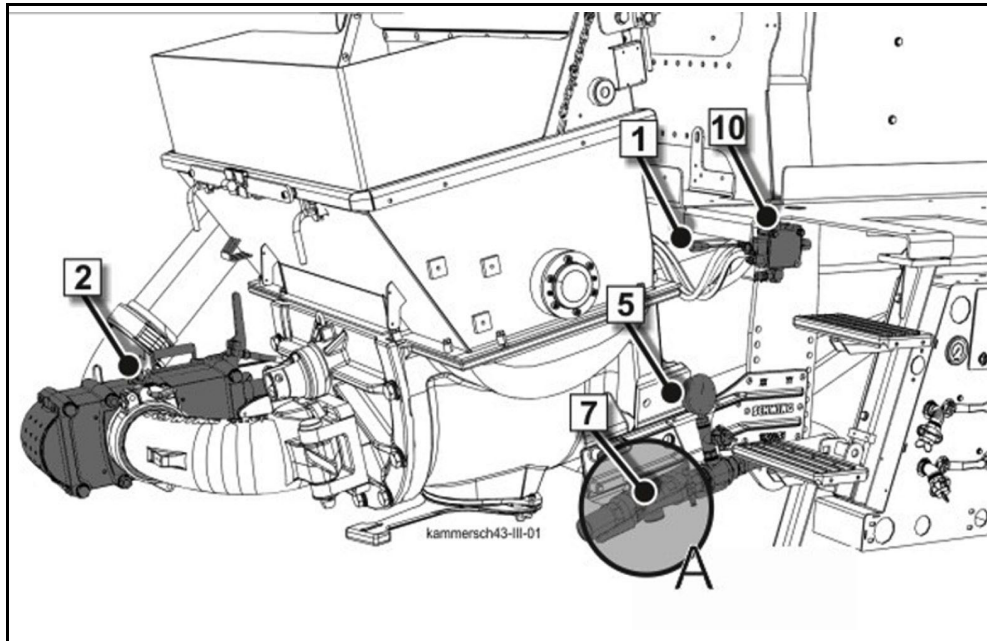
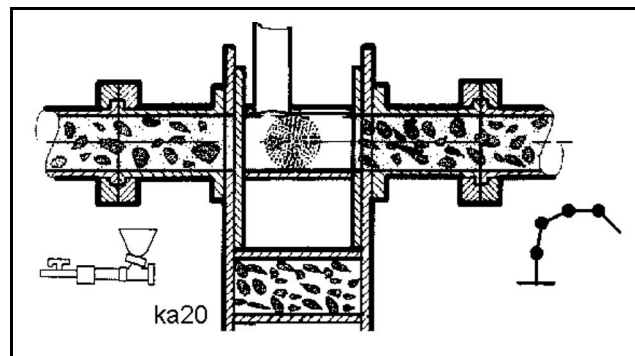

Fig. 452 Complete chamber valve
Fig. 464
- Use caution when opening the ball valve (7) (**Fig. 452**). Residual concrete can be ejected from the blow valve opening.
The chamber valve is installed in the pumping line for the boom outlet on the rear of the machine (2) (Fig. 452).
The control devices for the system are located on the rear of the machine, on the right (1) (Fig. 452).
Caption for (Fig. 452), (Fig. 453)
- Shut the ball valves for the air system (6) (**Fig. 453**) and (7) (**Fig. 452**).
<p>10214311</p>	<p>Actuate the control lever (1) (Fig. 452) until the chamber with the ball is completely inside the gate valve housing (Fig. 464). The connection between the concrete pump and boom pumping line is then interrupted. When the spring-centred control lever (1) (Fig. 452) is released, it returns to the "Neutral position".</p>
- Open the ball valves for the air system (6) (**Fig. 453**) (7) (**Fig. 452**).
<ul style="list-style-type: none"> ➤ Switch the compressor on using the switch of the active control. <p>The compressed air first escapes through the ball valve (7) (Fig. 452).</p>
- Slowly shut the ball valve (7) (**Fig. 452**).
- During the cleaning process, monitor the compressed-air pressure gauge continuously (5) (**Fig. 452**).
Immediately open the ball valve (7) (**Fig. 452**)!
- Completely open the ball valve (7) (**Fig. 452**) when the ball has come out of the pumping line.
Extend the valve chamber only while the compressor is off and the pressure gauge (5) (**Fig. 452**) displays "0 bar".
- Depressurise the pumping line by opening the discharge ball valve (7) (**Fig. 452**).